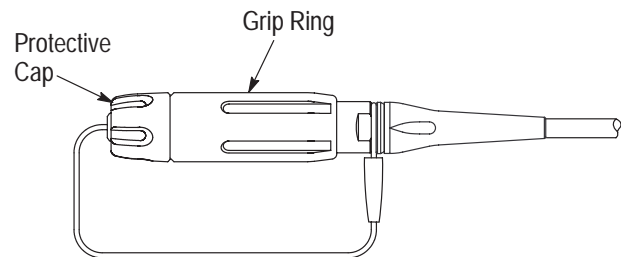

Figure 14
1. Loop the tether wire around the groove in the extension, and feed the end of the tether wire into the open end of the tether crimp sleeve. Pull approximately 3 to 5 mm of the tether wire through the tether crimp sleeve. See Figure 14, Detail A.
3. Slide the shrink tube over the tether crimp sleeve. Using the heat gun, apply heat to the tube until it is secure. See Figure 14, Detail B.
4. Thread the protective cap onto the grip ring. Finger-tighten the cap. See Figure 14, Detail C.